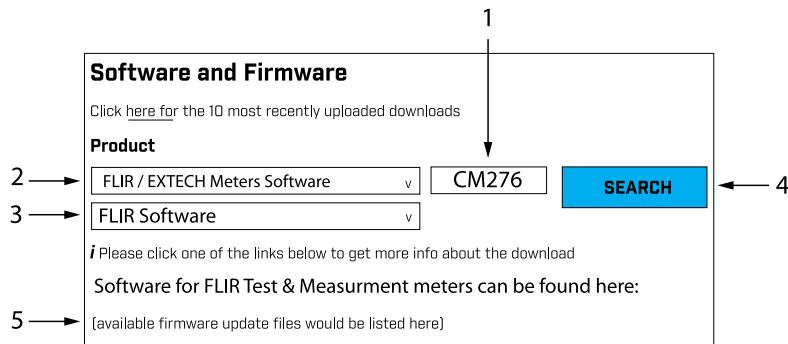

Figure 13.3 Follow the steps to complete the download process.
5. For Figure 13.3, below, 1. Type **CM276** in the search field; 2. Select **FLIR / Extech Meters Software** from the pull-down menu; 3. Select **FLIR Software** from the pull-down menu; 4. Click **SEARCH**; 5. Click the upgrade file to download it to your PC.